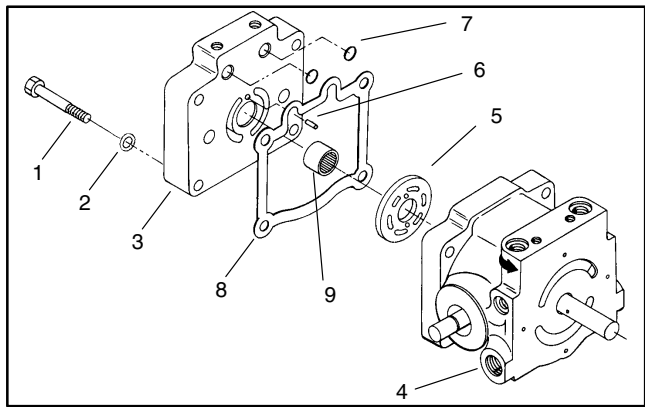

Figure 45
3. Remove four cap screws and washers from the end cap. Loosen cap screws evenly to prevent distortion of parts (Fig. 45).
4. Remove end cap and valve plate together from the variable housing. If valve plate remains on the cylinder block, remove it. Remove locating pin from the end cap (Fig. 45).
### 1. Inspect end cap (Fig. 45).
### 2. Inspect valve plate. There should be no signs of scoring on contact surfaces (Fig. 45).